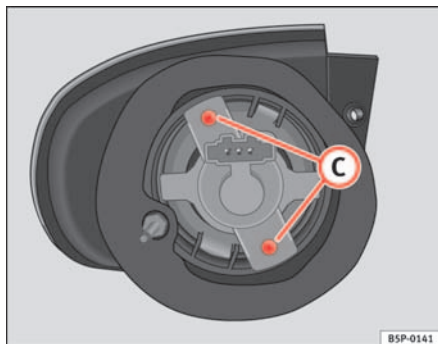

Fig. 183 Indicator lights
- Unscrew the bolts ⇒ page 246, fig. 183 **C** from the lamp holder and pull on this.
- Unscrew the bolts ⇒ fig. 183 C from the lamp holder and pull on this.